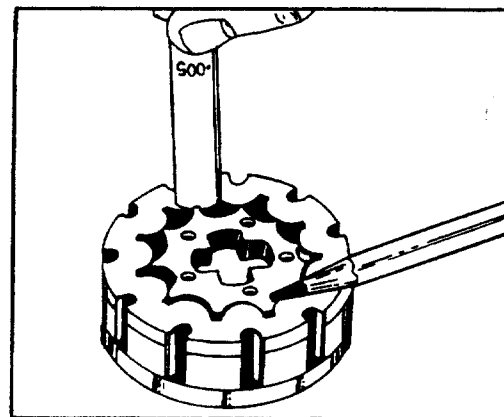

FIGURE 29.
36. Check the rotor (24) lobe "tip" to stator (25) lobe "tip" clearance, using the appropriate feeler gage. See figure 29. The rotor lobe, directly across from the rotor lobe tip being gaged, (see pointer figure 29) must be centered between stator lobes during the gaging process. A rotor and stator that is .75 inches (19 mm) or less in height has a maximum allowable "tip" clearance of .003 inches (.08 mm). A rotor and stator that is 1.00 inch (25.4 mm) or more in height, has a maximum allowable "tip" clearance of .005 inches (.13 mm). A rotor and stator that exceeds the maximum allowable "tip" clearance, must be replaced.